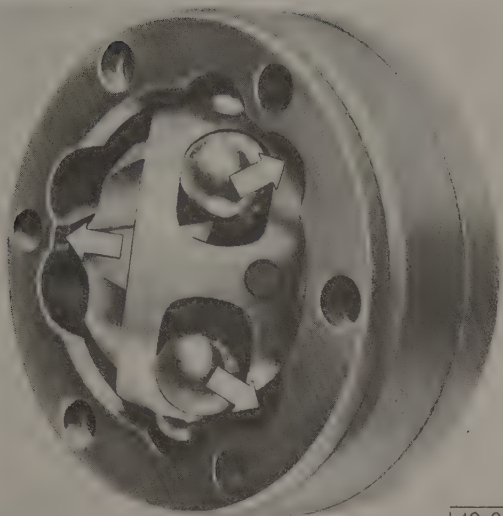

Fig. 5-19. Hub being rotated within cage to align balls with grooves of outer housing (arrows).
5. Pivot the hub and cage, as shown in Fig. 5-19, until the balls align with the grooves in the outer housing.